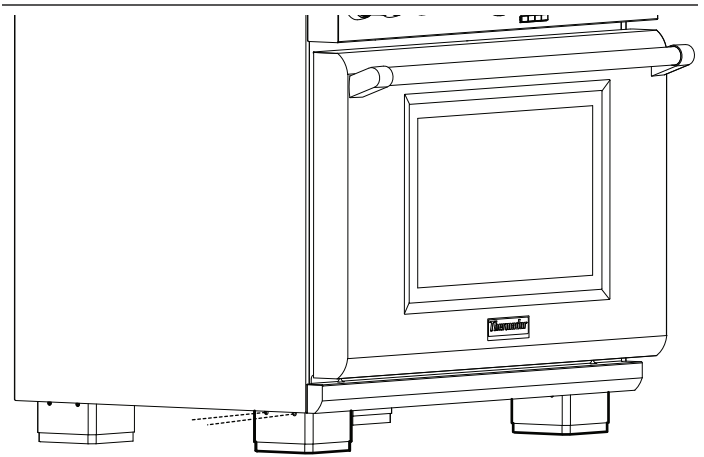

Figure 34: Leg Cover Mounting Holes
1. Remove the screws securing the leg covers (see *Figure 34: “Leg Cover Mounting Holes”*). Dismount the leg covers from the extruded dimples.